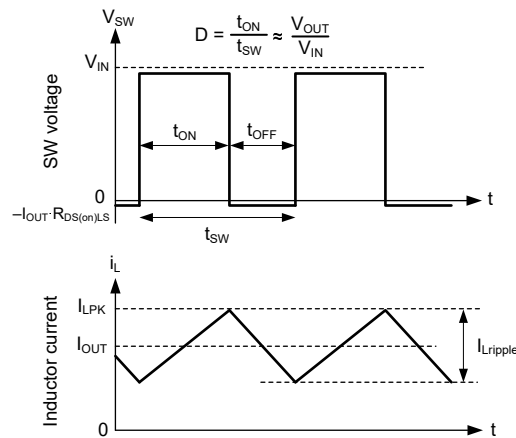

图 7-12. SW Voltage and Inductor Current Waveforms in Continuous Conduction Mode (CCM)
The following operating description of the converter refers to the Functional Block Diagram and to the waveforms in 图 7-12. In CCM, the converter supplies a regulated output voltage by turning on the internal high-side (HS) and low-side (LS) NMOS switches with varying duty cycle (D). During the HS switch on time, the SW voltage, V_{SW} , swings up to approximately V_{IN} , and the inductor current, i_L , increases with a linear slope. The HS switch is turned off by the control logic. During the HS switch off time, t_{OFF} , the LS switch is turned on. Inductor current discharges through the LS switch, which forces V_{SW} to swing below ground by the voltage drop across the LS switch. The control loop adjusts the duty cycle to maintain a constant output voltage. D is defined by the on time of the HS switch over the switching period: